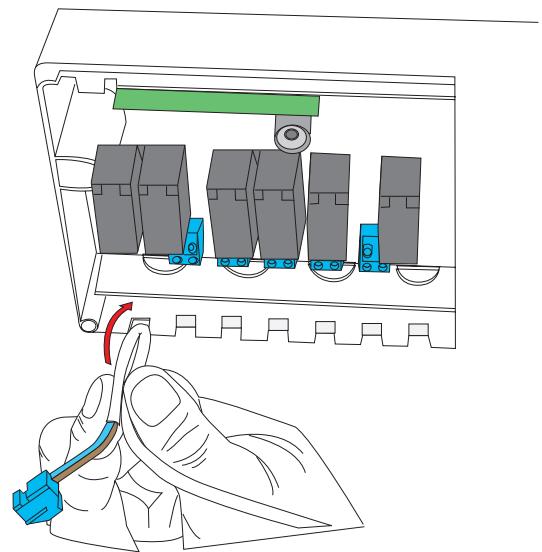

Fig. 3. Push cable through cable gland.
7. Position cables in strain-relief cable glands (see Fig 3).